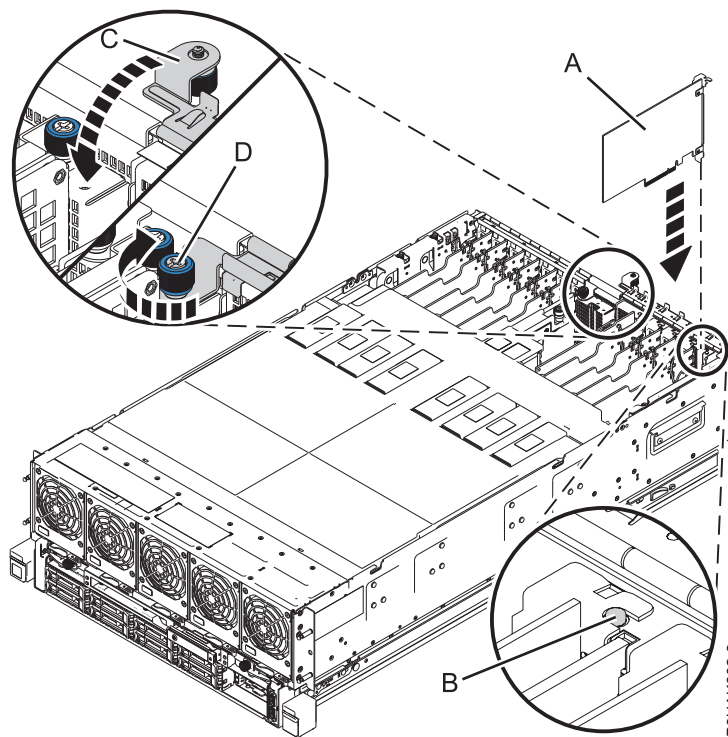

Figure 8. Installing or replacing a PCIe adapter in the 8408-44E or 8408-E8E system
6. Carefully grasp the adapter by its top edge or tailstock, and align the adapter with the slot and its connector on the system backplane (A), as shown in Figure 8.
7. Carefully grasp the adapter by its top edge or tailstock, and align the adapter with the slot and its connector on the system backplane (A), as shown in Figure 8.
9. Ensure that the tailstock notch engages with the pin on the system's chassis. See (B) in Figure 8.
10. Close the I/O retention bracket (C) by rotating it down and then tighten the captive thumbscrew (D) until it is secured to the system's chassis. See Figure 8.